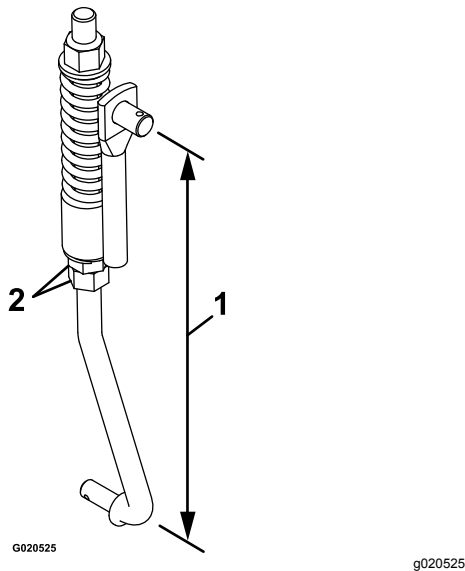

Figure 55
8. Adjust the linkage length with the 2 nuts at the bottom of the vertical spring assembly (Figure 55).